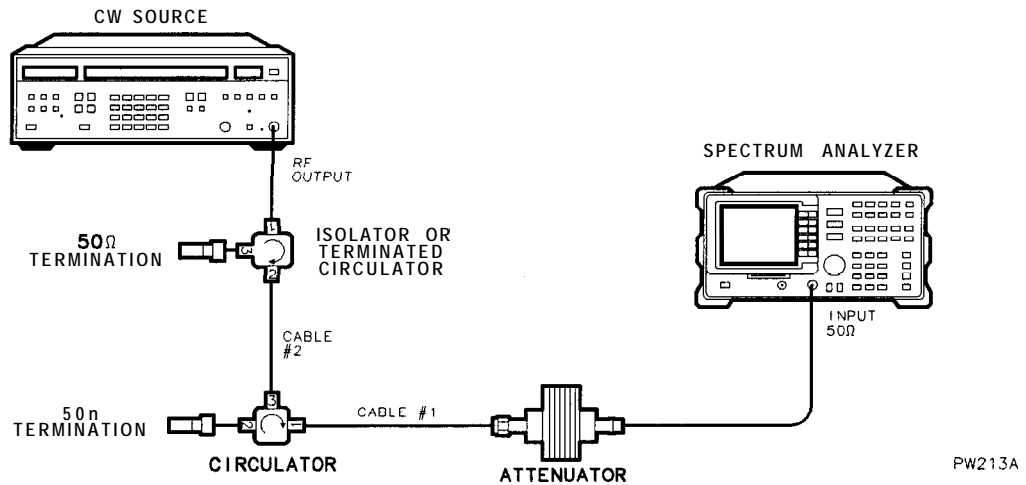

Figure 3-28. Test Setup for CW Source Adjustment
3. Read the text displayed and make the connections described. Refer to Figure 3-28 for the equipment setup.